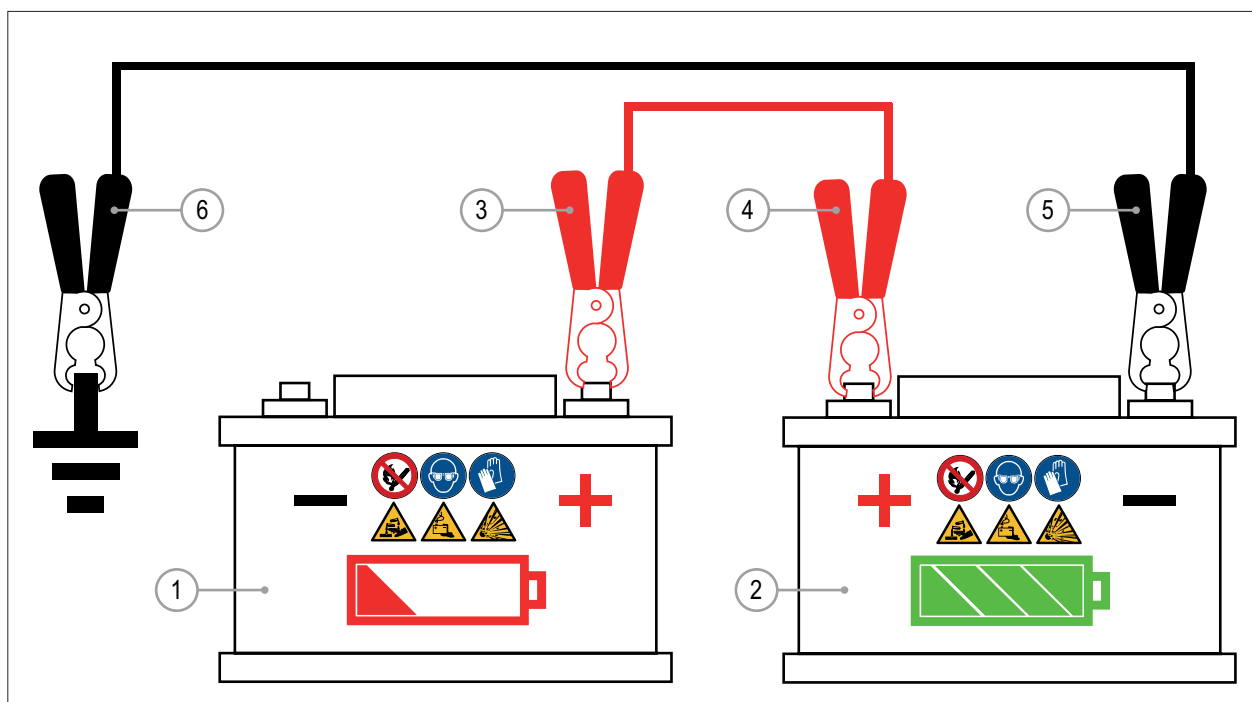

FIG. 34
If the machine battery (FIG. 34 - Rif. 1) is disabled it is possible to start the engine using an booster battery and the booster cables (FIG. 34 - Rif. 2) or a booster.
- 3) Connect positive (+) booster cable to disabled machine battery positive(+) post (FIG. 34 - Rif. 3). You can also connect it to the positive post of the starter motor (FIG. 40 - Rif. 4).
- 4) Connect other end of positive(+) booster cable to booster battery positive(+) post (FIG. 34 - Rif. 4).
- 5) Connect negative (-) booster cable to booster battery negative (-) post (FIG. 34 - Rif. 5).
- 6) Connect other end of negative (-) booster cable to a metal part of machine frame or engine, away from battery (FIG. 34 - Rif. 6).